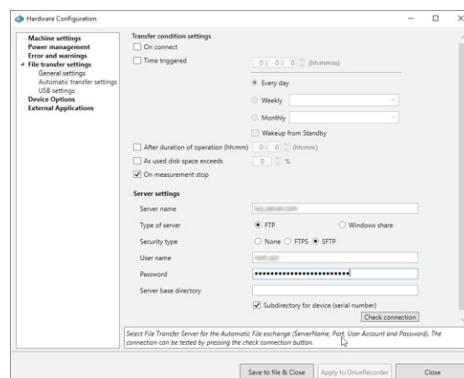

Fig. 4
- Under File Transfer Settings -> General Settings select one transfer condition and provide the relevant Server settings, including the user, and the path where the files will be exchanged (Fig.4).